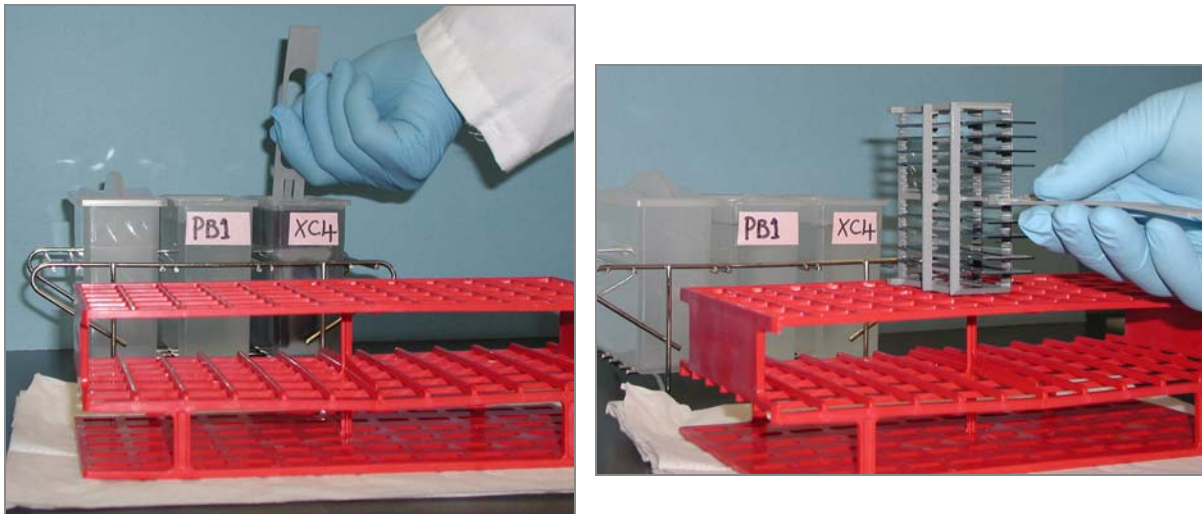

Figure 178 Moving BeadChip Carrier from XC4 to Tube Rack
18. Remove the staining rack in one smooth, rapid motion and place it directly on the prepared tube rack, making sure the barcodes face **up** and the locking arms and tab face **down** (Figure 178).